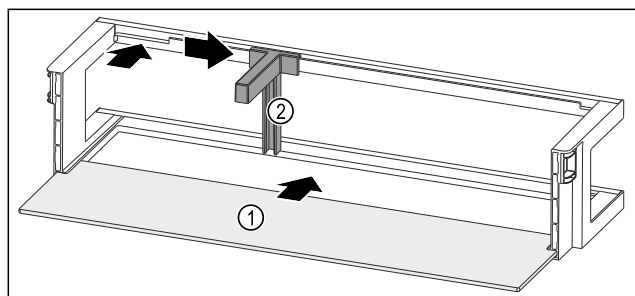

Fig. 67 Door rack with shelf
- ▶ Push the shelf Fig. 67 (1) into the side recesses.
- ▶ Insert the bottle holder Fig. 67 (2) in the recess.
- ▶ Push the bottle holder Fig. 67 (2) to the desired position to the side.